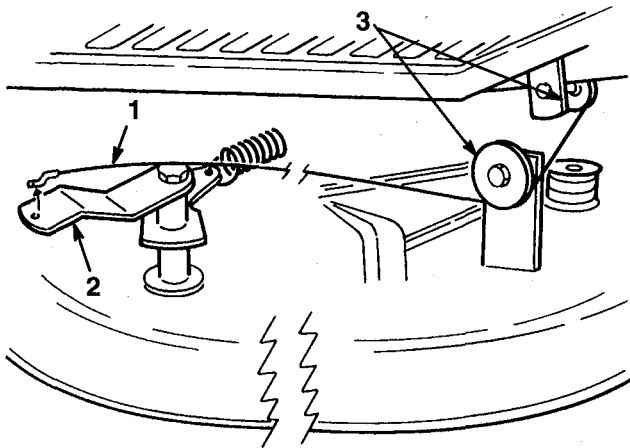

Figure 46
9. Loop blade control cable around the two roller guides and hook the end into the hole in the idler arm on the mower (Fig. 46).